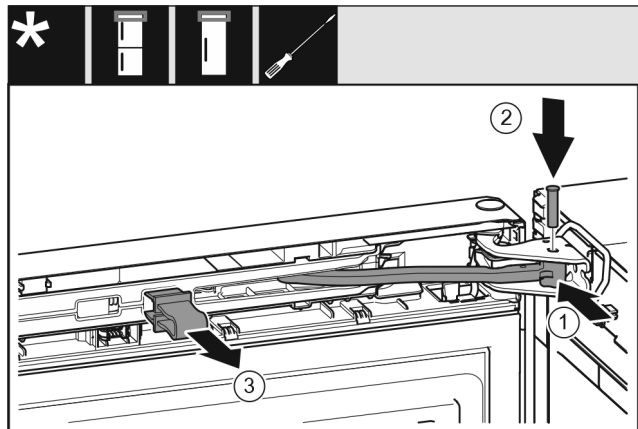

Fig. 48
- ▶ Turn the hinge in the bearing bracket. Fig. 48 (1)
- ▶ Insert the bolt in the bearing bracket and hinge. Make sure that the latching lug sits correctly in the groove. Fig. 48 (2)
- ▶ Remove the locking device. Fig. 48 (3)